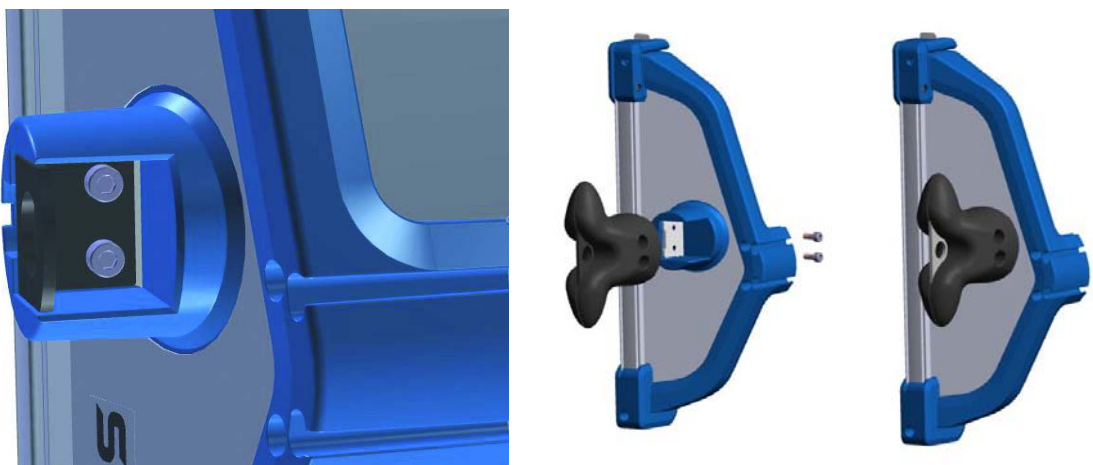

Figure 7: To mount the safety loop brackets or side handles
- Slide one side handle over the holder on each side of the SkyPanel (see Figure 7).